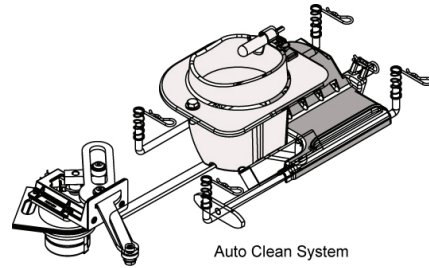

Figure 26.2
- b. Open the firebox door. Inspect the auto-clean springs (**Figure 26.2**).